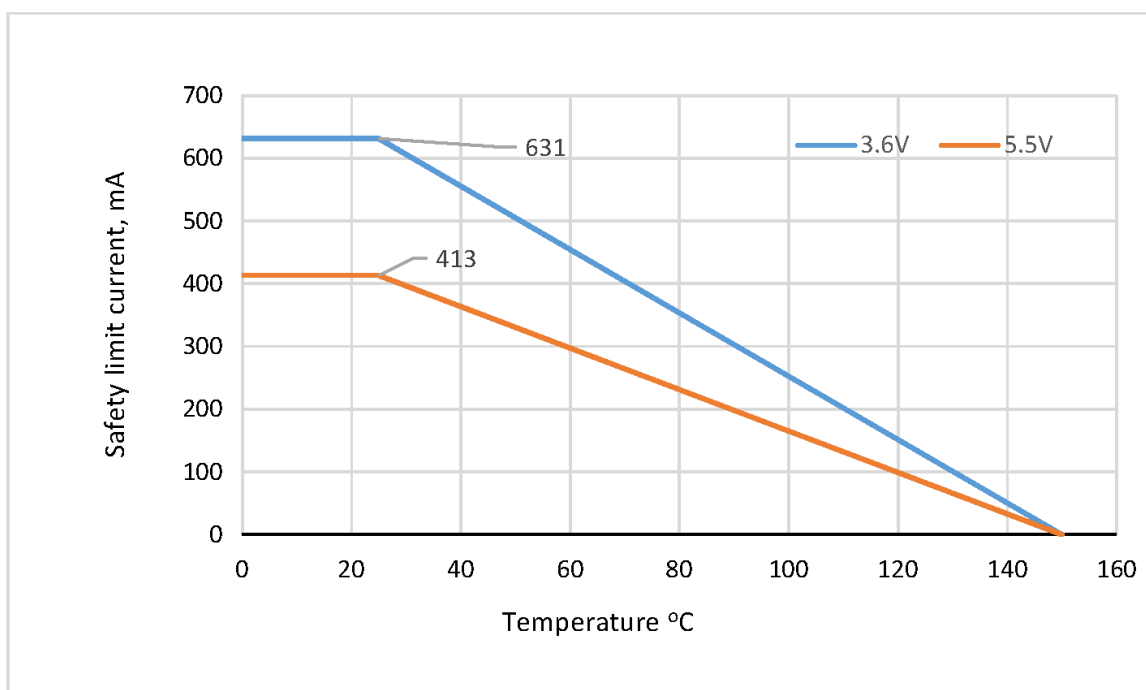

Figure 39. WB SOIC-16/20 Thermal Derating Curve (Dependence of Safety Limiting Values)
1. Maximum value allowed in the event of a failure. Refer to the thermal derating curve in Figure 39 on page 32.